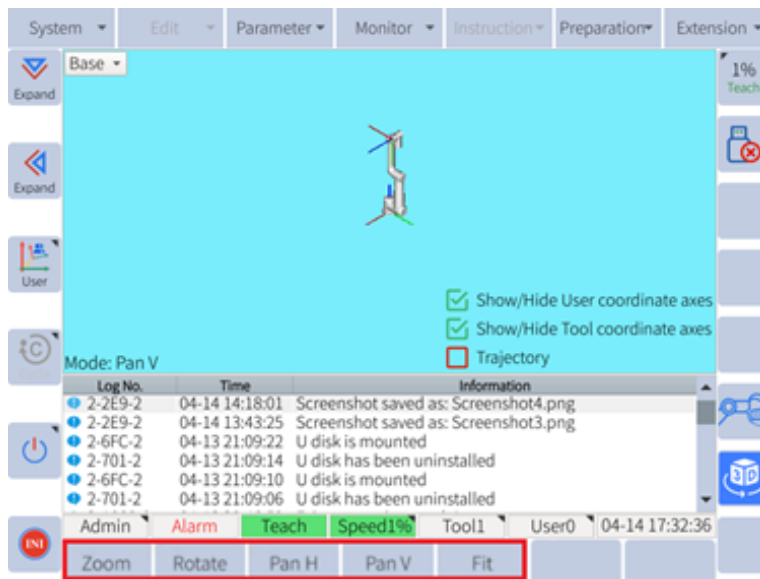

Figure 6-23: Buttons at the bottom
2.2.1 Buttons at the bottom, as shown in Figure 6-23: